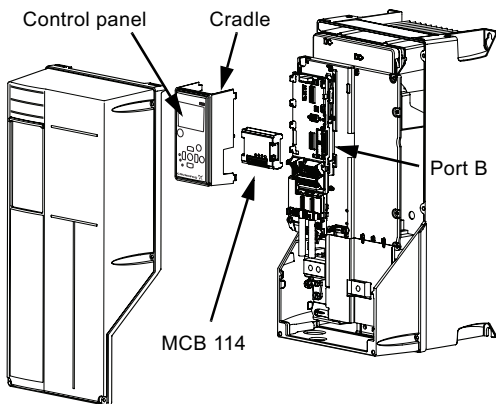

Fig. 4 Enclosure types A5, B1, B2, B4, C1, C2, C3, C4, D1 and D2
2. Remove the control panel and the cradle from the CUE. See fig. 4.